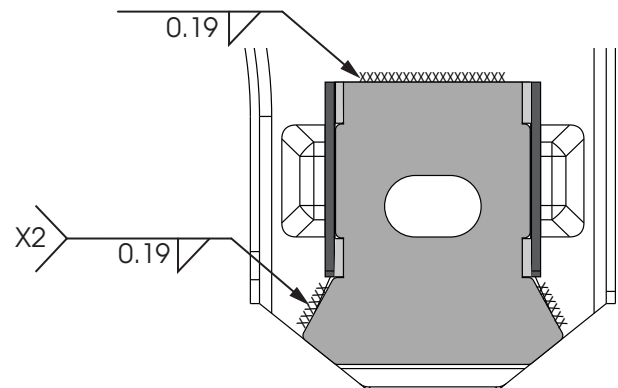

Figure 7: Outboard patch plate welds
3. Weld the outboard patch plate using specifications shown in Figure 7.